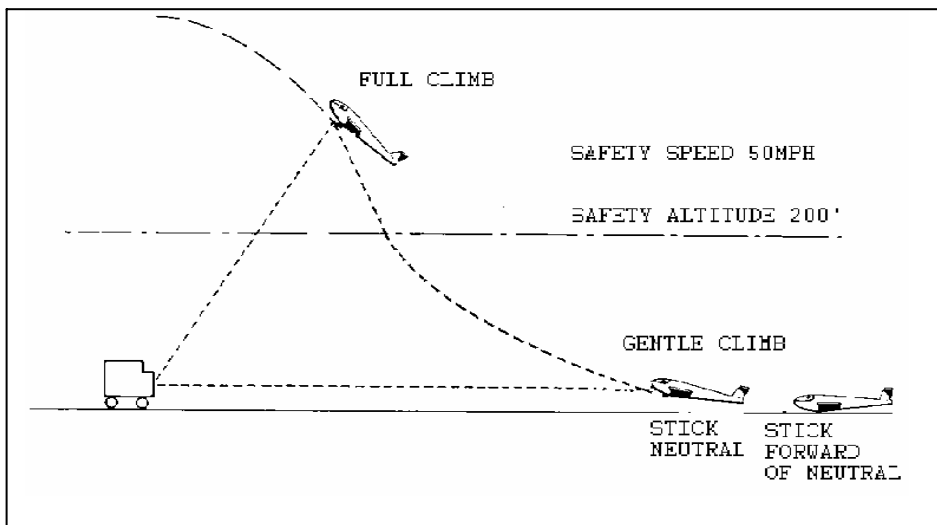

Figure 2-5-3. Controlled Climb Angle
18. The nose shall be raised progressively to the best climb angle only after it is safe to do so. The increase in attitude shall be smooth with the maximum climb attitude achieved only after passing through 200 feet AGL and while maintaining an airspeed of at least 50 mph (see Figure 2-5-3).